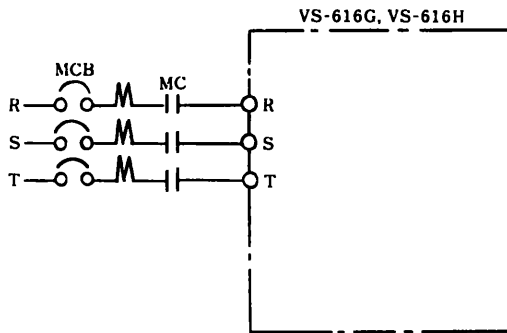

Fig. 6.8 Connections of MCB and MC
(1) Be sure to connect MCBs to protect the circuit. MCs may be connected when required (Fig. 6.8).